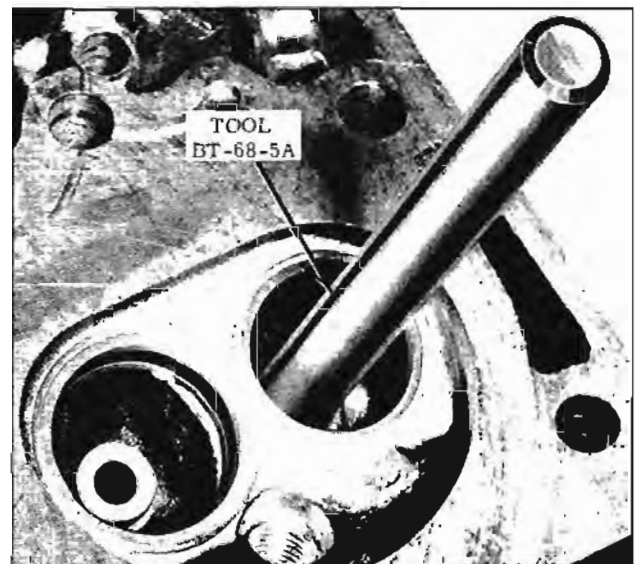

Fig. 8-120 Removing Valve Guide
1. Support cylinder head and drive out valve guide, using Tool BT-68-5A. (Fig. 8-120)